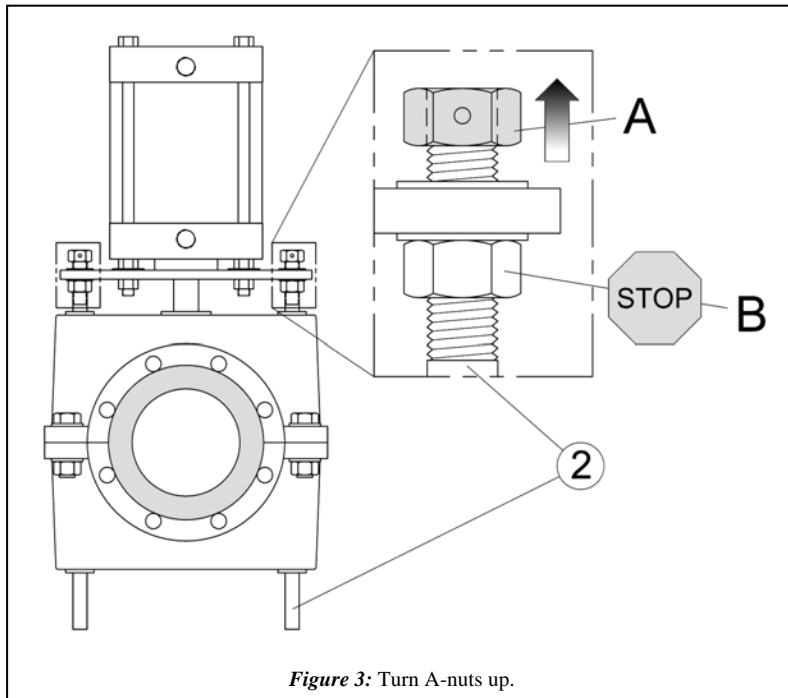

Figure 3: Turn A-nuts up.
STEP 3: Now loosen each A-nut until they come to the ends of their respective pull bar ② (Fig. 3).